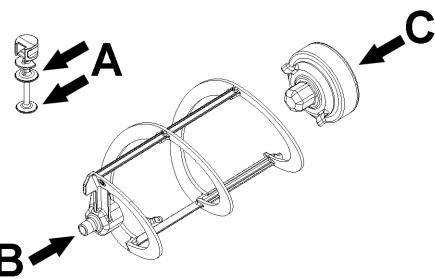
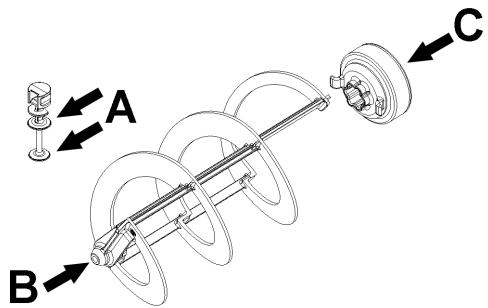

figure 19
figure 20
- 2 Lubricate the tap piston, the hexagonal joint and the mixer at the points indicated in figure 19 (B-Frozen 6) or figure 20 (B-Frozen 10), using only the grease that came with the machine
3 Reassemble the tap on the container in reverse order compared to that shown in figure 19 and figure 20.